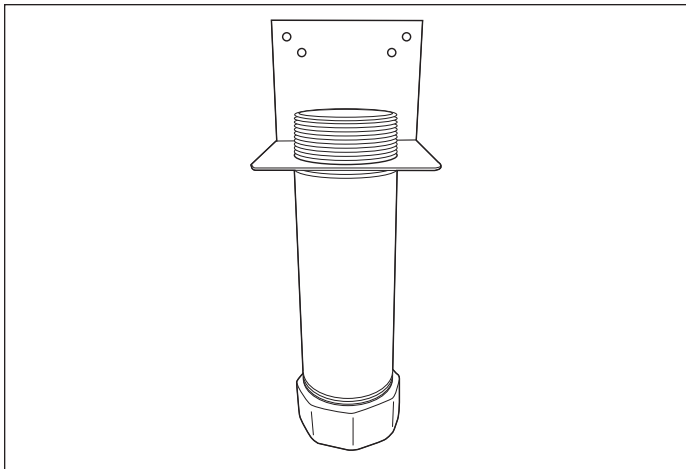

Figure 21-2
1. Place Fuel Sensor Housing mounting bracket over housing thread (Figure 21-2).